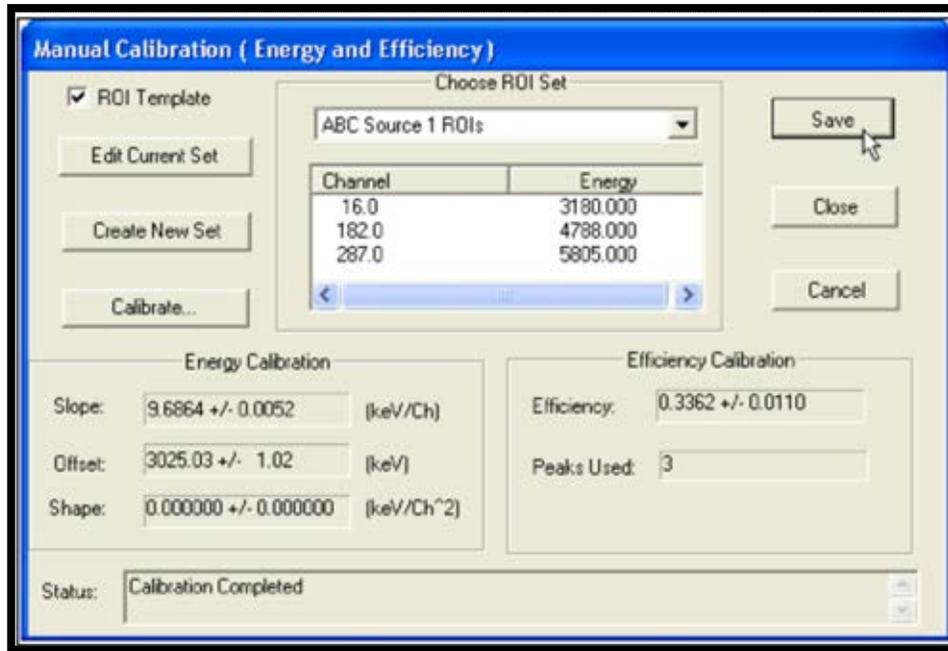

Figure 45. Calibration Results
- 3) AlphaVision calculates and displays the efficiency and energy calibration factors, including a **Status** note at the bottom of the calibration dialog (which, in Figure 45, reads **Calibration completed**). Always check this status line when **Calibrate** is clicked.